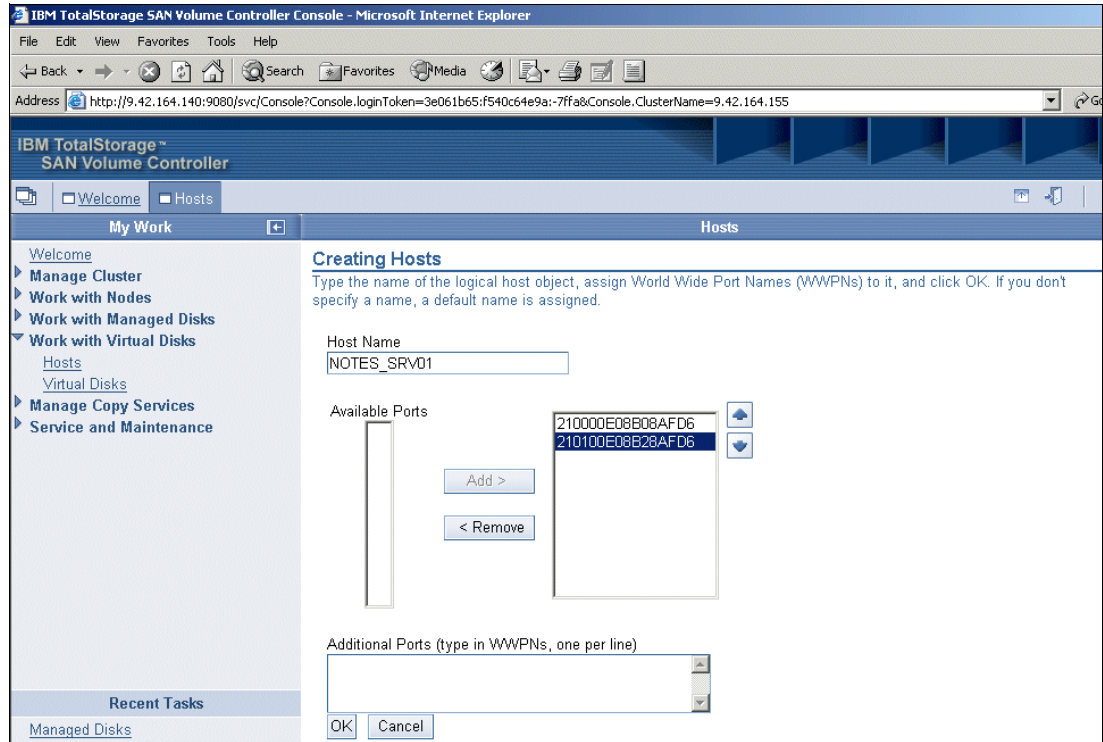

Figure 9-53 Creating a new host
2. On the Creating Hosts panel (Figure 9-53), type a name for your host.